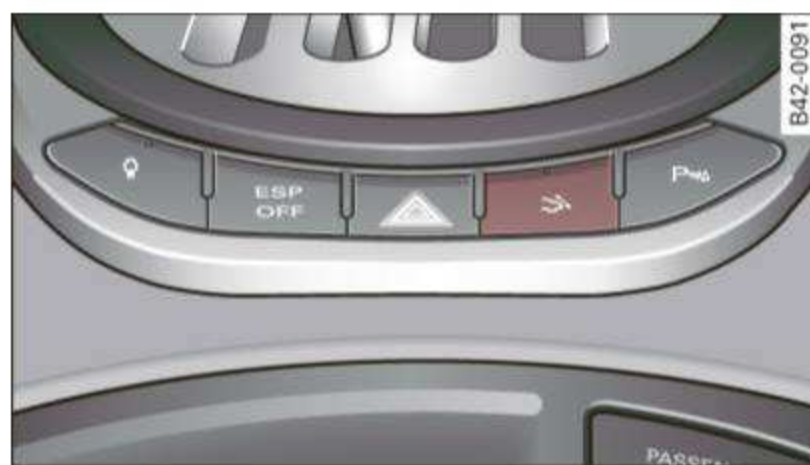

Fig. 111 Switch for rear spoiler
- Extending manually: Press the switch ⇒ fig. 111 briefly to extend the rear spoiler completely.